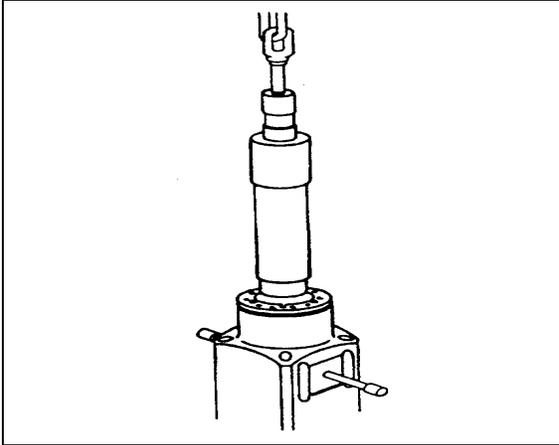

Figure 08-32: Install Piston Into Cylinder
2. Lubricate piston surface with oil. Lower the Piston onto the Cylinder. (Figure 08-32)